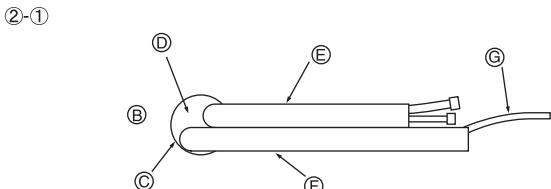

Fig. 3-5
② Left and left rear piping
- ②-① For left rear piping, pull the pipes out of the hole to determine their correct length, then bend them. The indoor unit should hang on the wall mounting fixture. (Fig. 3-5)